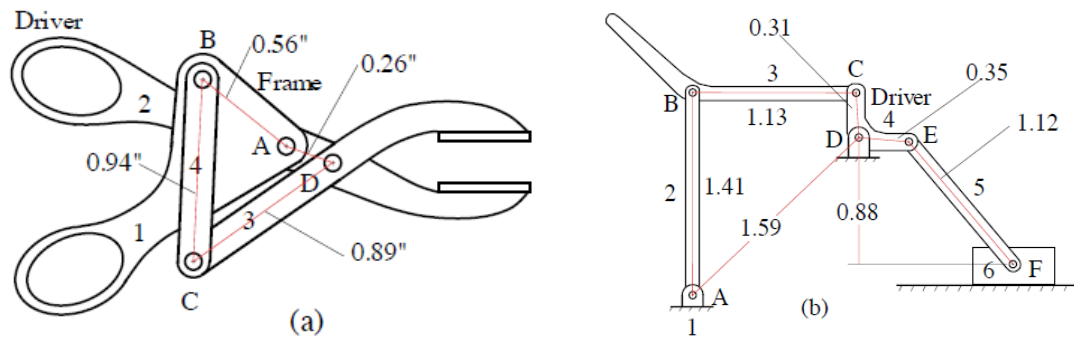

Figure 2.1 (a) and (b)
- 2A.** In the figure 2.1 (a) and 2.1 (b) shown below, check for Grashof law and determine the Grashof type of each four bar linkage (A-B-C-D) in each mechanism. **(2)**